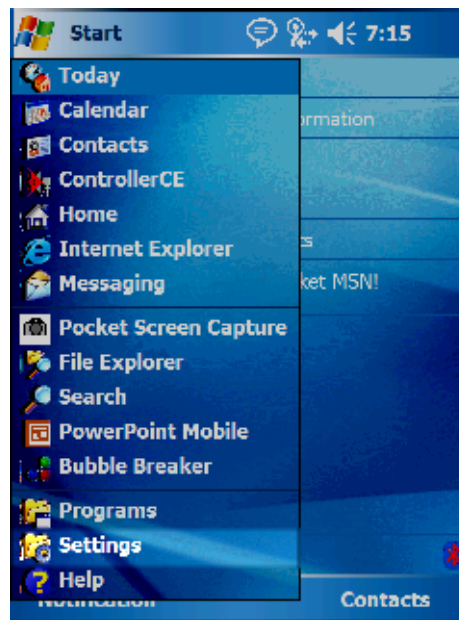

Figure 30: Accessing the Settings window
- From the Start pop-up menu, tap **Settings** (Figure 30). The Settings window appears.